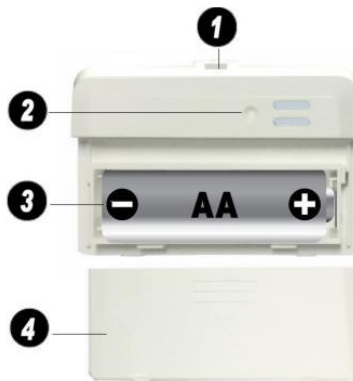

Figure 1
1. Remove the battery door on the back of the sensor by sliding the compartment door down, as shown in Figure 1 .